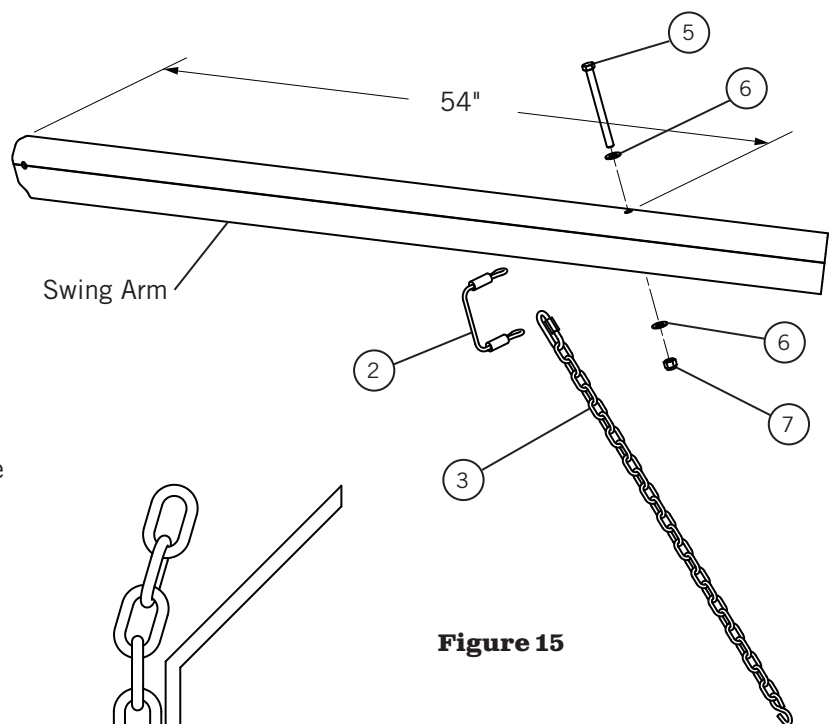
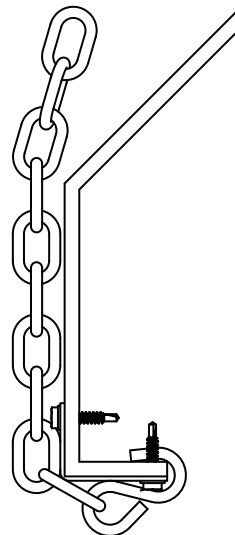

Figure 15
Figure 16
1) See **Figure 15**. From the bottom of the swing arm at the spring measure 54" and drill .386 diameter (W drill) horizontally through the center of the tube and both walls.
2) See **Figure 15**. Attach cable tie down 8" (2) to swing arm with 3/8-16 x 4 1/2 hex bolt (5), two 3/8 flat washers (6), and 3/8-16 nylon hex nut as shown.
3) Open quick link on end of chain assembly arm restraint (3) and attach it to cable Tie down 8" (2).
4) See **Figure 16**. Make sure the tarp system is in the fully closed position and locate the angle chain corner (1) with the long leg on the bottom so that the S-hook on the chain assembly can be attached to firmly hold the swing arm in place.
5) Use four #10 x 1 1/2 TEK hex washer head (4) to secure angle chain corner (1) to trailer.